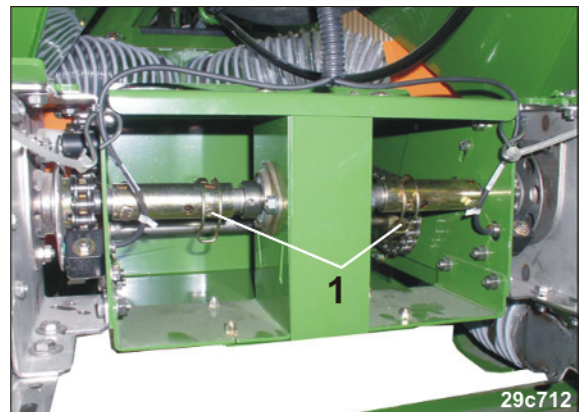

Fig. 193
3. Remove one of the two linch pins (Fig. 193/1).